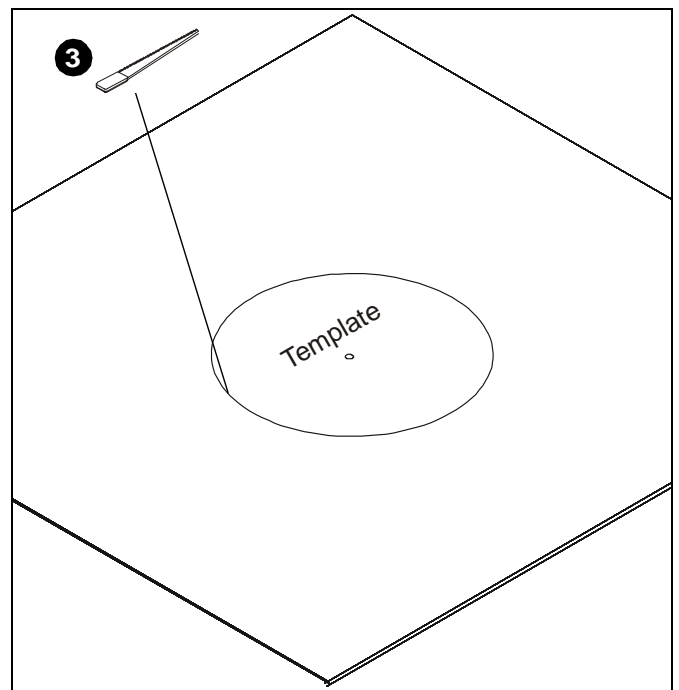
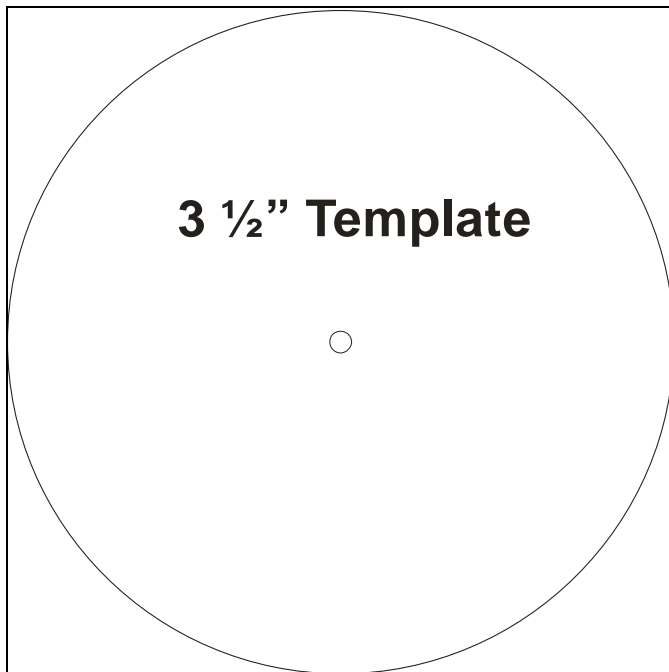

Figure 10
Figure 12
3. Cut hole in ceiling tile either by using trace template (See Figure 12) and a drywall saw or by using a circular cutter set to cut a hole 3 1/2" (88.9 mm) in diameter. (See Figure 10)